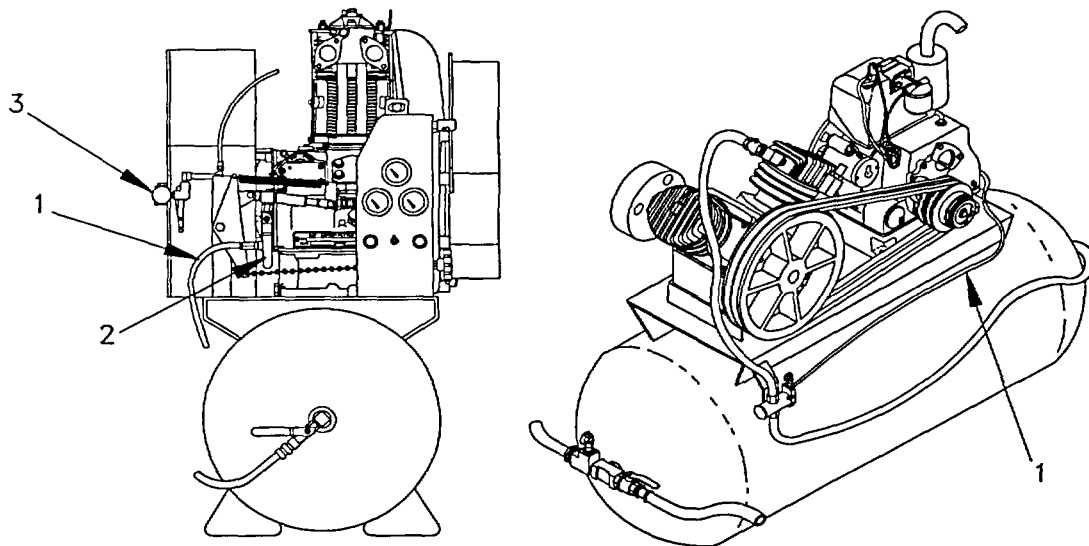
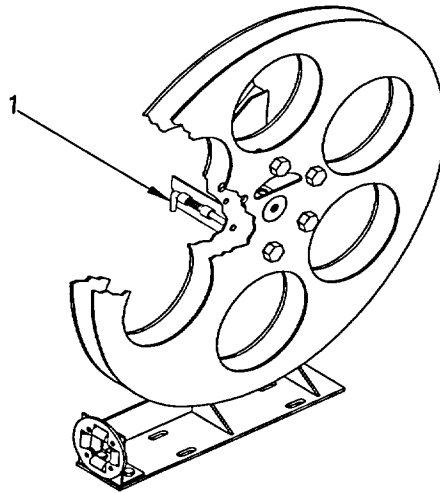

Figure 2-9. Automatic Idle Control
Figure 2-10. Reel Stand Locking Device
i. Diesel Engine. (Refer to Figure 2-9).
- (1) Auto Idle (1). Reduces engine speed to recommended idle speed during compressor unload period.
- (2) Manual Override Valve (2). Disables the idle device so that the engine doesn't go into the idle mode. Keeps engine operating at proper RPMs.
- (3) Clutch Engagement Control (3). Used to engage/disengage clutch to set air pump in motion.
j. Reel Stand Locking Device. (Refer to Figure 2-10).
- (1) Lock (1) prevents reel movement when reel is not in use.